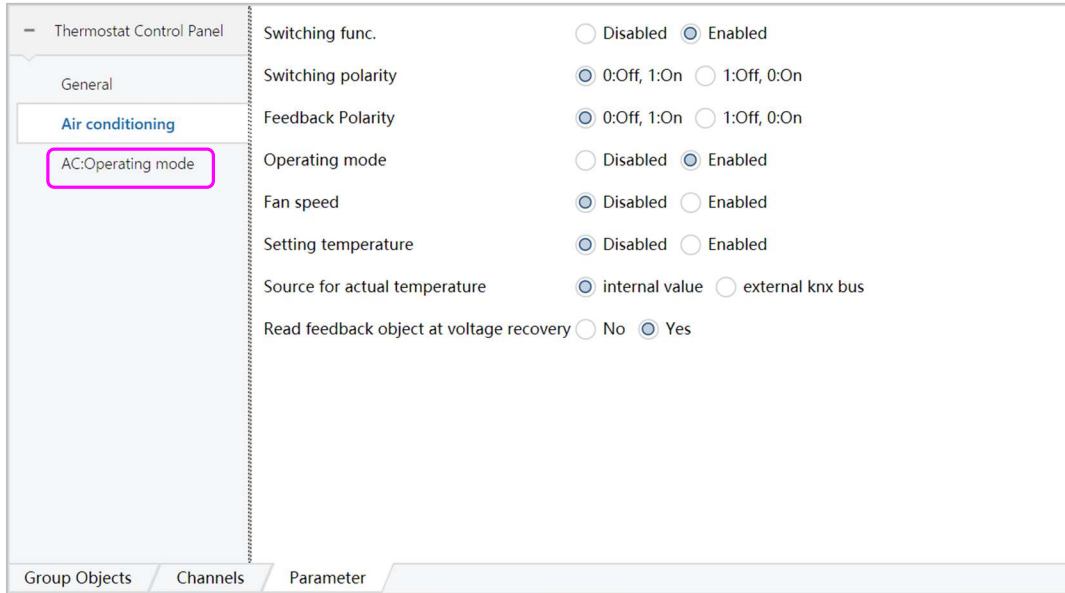

Figure 6.2.3
2) Operating mode, when **Enabled** is selected, the options in the red box as in Figure 6.2.3 appear.